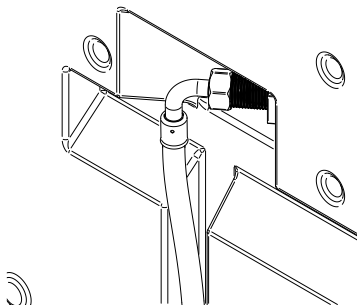

Fig. 6
- 6.2 Cold mains feed connection:** The connection to the cold-water mains inlet is made using the 15 mm compression flexible hose supplied. Ensure the rubber sealing washer supplied with the hose is installed when the hose is fitted. When tightening ensure the fill valve within the tank is not rotated. If the valve is rotated it may not function correctly with the risk of flooding. The hose is made water-tight with a sealing washer on assembly, nip tight to 4 to 5 Nm for water-tight seal. **(Do not overtighten)**. See Fig. 6.